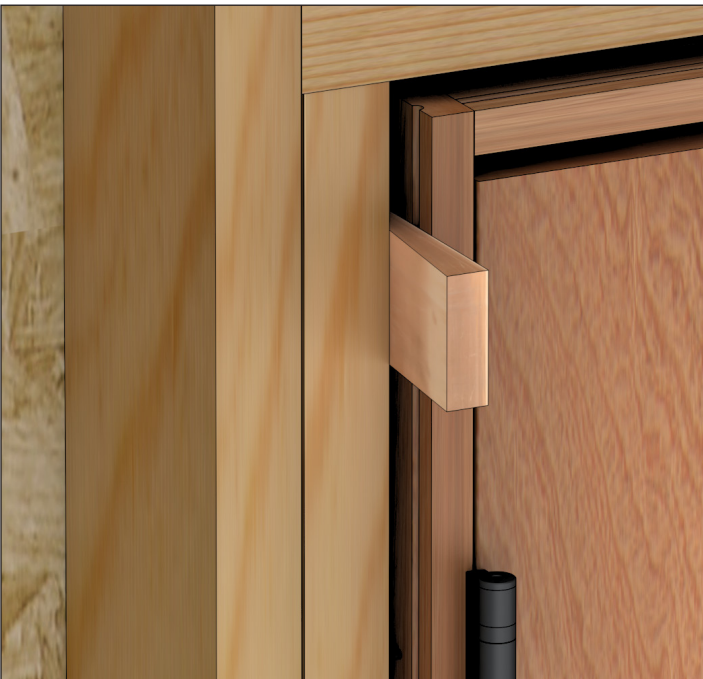

Figure 24
1. When fastening is complete, install shims above every fastener. See figure 24.